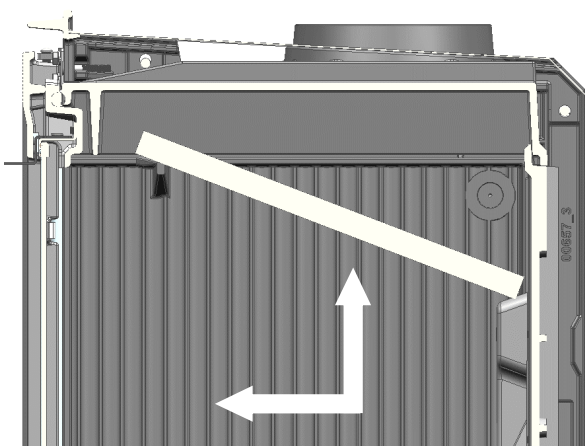

Fig. 1
1. Slide the deflector plate forward and upward until the pivots are removed from the sides of the deflector housings (Fig.1).
There are possible risks that must be taken into account when operating your solid fuel home, regardless of the brand. These risks can be minimized if the instructions and recommendations given in this manual are followed. Mantenga alejado cualquier material combustible (muebles, cortinas, ropas, etc.), a una distancia mínima de seguridad de 0,90m. (Fig.1)